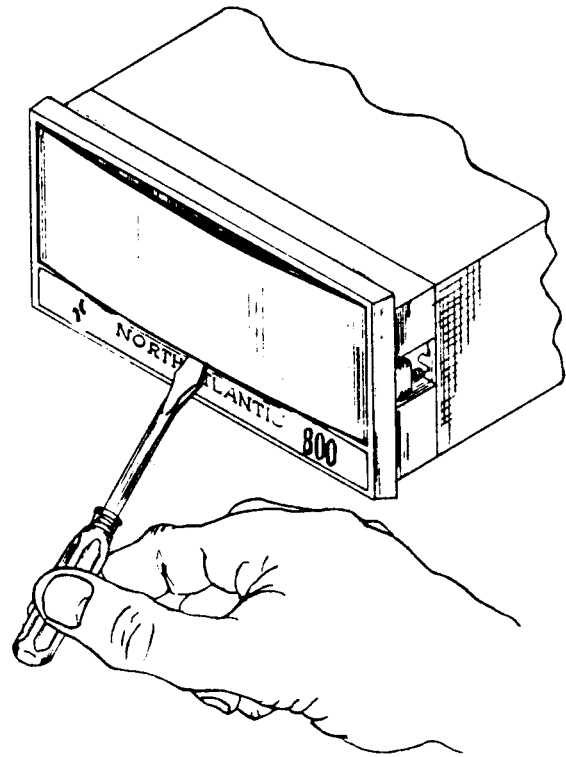

Figure 1-4. Removal of Lens
- b. Remove front lens by inserting a screwdriver at the bottom of the lens, pushing it upwards and prying out lens (figure 1-4).